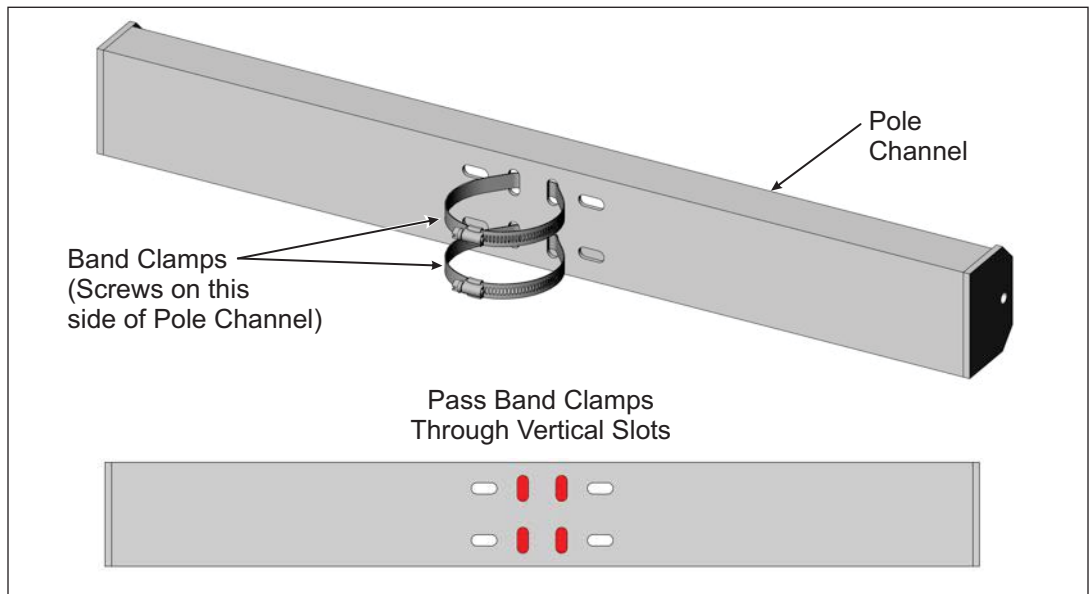

Figure 1-4: Installing Band Clamps on Pole Channel
- A. Unscrew the two Band Clamps and pass the loose ends through the two vertical slots of the Pole Channel, positioning the screw housing on the backside of the Pole Channel. Secure the loose ends by screwing them back into their screw housing. Complete this process on both Pole Channels. (See Figure 1-4)